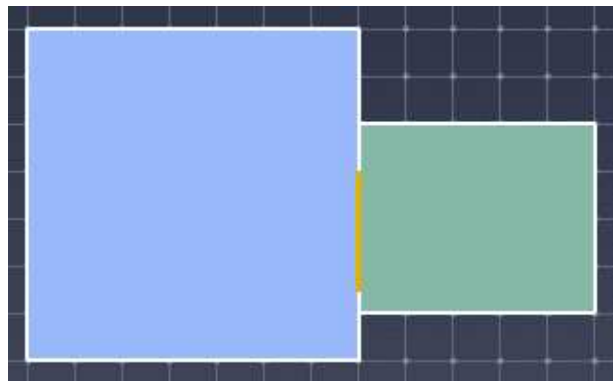

Figure 39. Adding a thin door to connect the rooms
3. The created door will appear as a thin, orange line in the 3D and 2D views as shown in Figure 39.